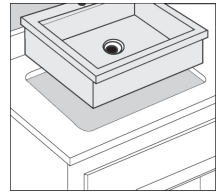

Figure 4
8. Apply a "rope of plumber's putty or caulk around the perimeter of the underside of the sink. Flip the sink over and carefully place it into the countertop opening, with all of the drains and attachments secured. Press down firmly to seat the sink against the countertop (Figure 4).